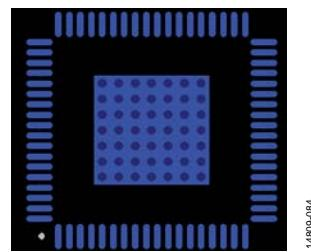

Figure 87. Exposed Pad Layout Example—Top View
- Place vias such that all layers of copper are connected, allowing for efficient heat and energy conductivity. For an example, see Figure 87, which shows 49 vias arranged in a 7×7 grid in the pad area.